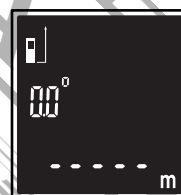

Fig. 3
Switching on (Fig. 3)
- The default measuring reference is the bottom of the meter. (Fig. 3)